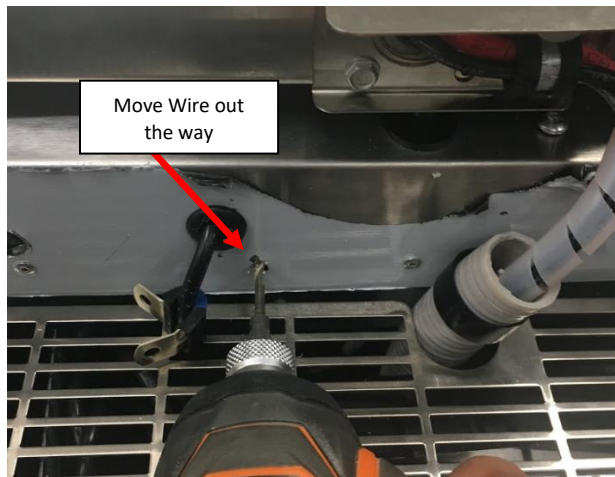

Figure 117a: P-Clamp mounting hole drilled.
- iii. Move the UI Harness and the P-Clamp out of the way and drill a pilot hole for the #10 Self-Drilling/Self-Tapping Sheet Metal Screw provided with a #20 Drill Bit (Smaller Drill Bit is acceptable but do not use an oversized Drill Bit). **See Figure 117a.**